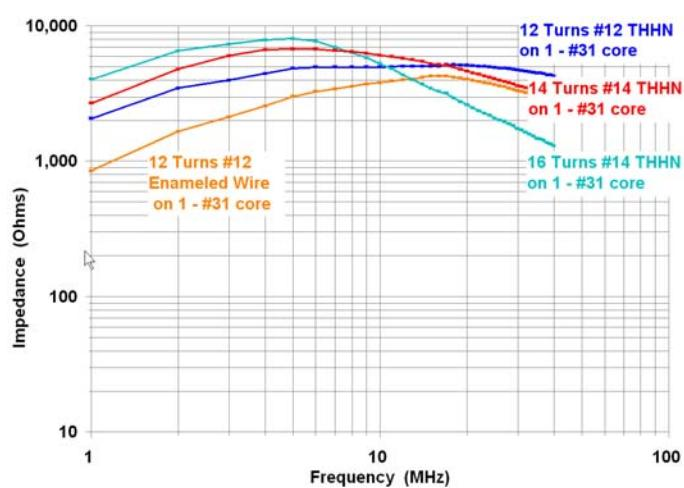

Fig 48 – Some Useful Bifilar Chokes
**Effect of Wire Insulation** Fig 48 shows that the wire insulation shifts the resonant frequency. The increased overall diameter also reduces the maximum number of turns that can be wound on any given core. Sixteen turns appears to be the practical limit for #14 THHN without overlapping turns.
Frequency Range	Bifilar Choke (See Fig 37, Fig 48)